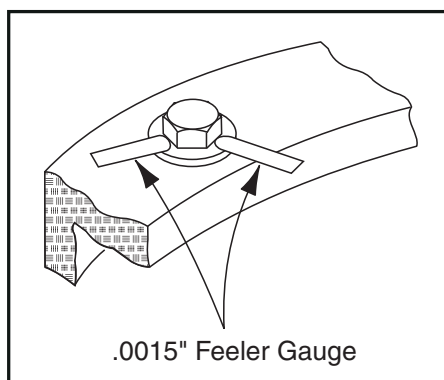

Figure 3-3. Swing Bearing Bolt Feeler Gauge Check
- b. At the positions indicated on Figure 3-3., Swing Bearing Bolt Feeler Gauge Check, try and insert the 0.0015" feeler gauge between the bolt head and hardened washer at the arrow indicated position.
- b. At the positions indicated on Figure 3-3, try and insert the 0.0015" feeler gauge between the bolt head and hardened washer at the arrow indicated position.
- d. At the position indicated on Figure 3-3, try and insert the 0.0015" feeler gauge between the bolt head and hardened washer at the arrow indicated position.